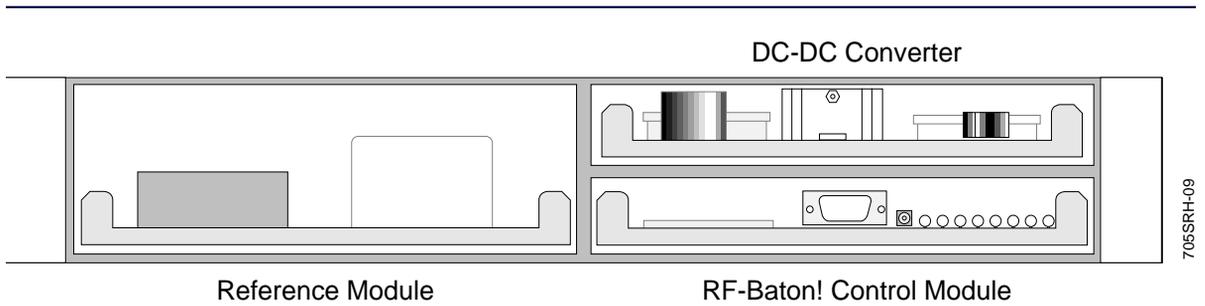
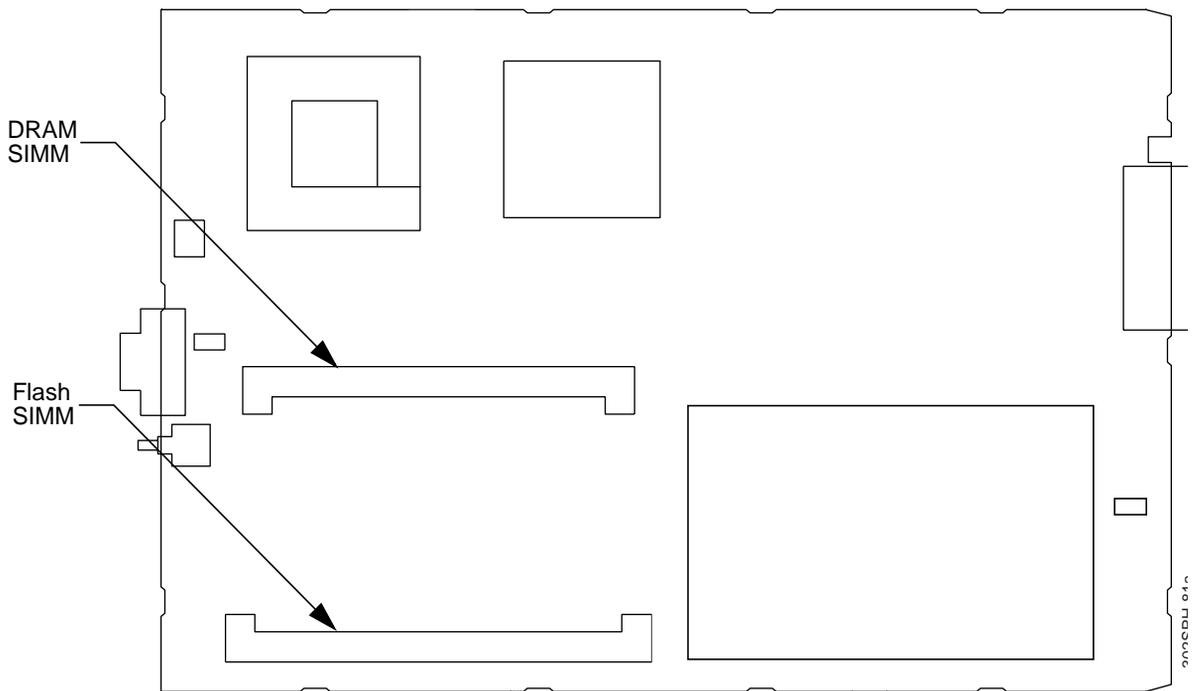

Figure 6-1: RF-B! Transmitter Controller Front Panel (Cover Removed)
Figure 6-2: BCM Component Layout—SIMM Locations
1. Set the RF-B! transmitter controller power switch to OFF (O).
- Slide the Baton Control Module (BCM) board out to gain access to the SIMM (see Figure 6-1 and Figure 6-2).